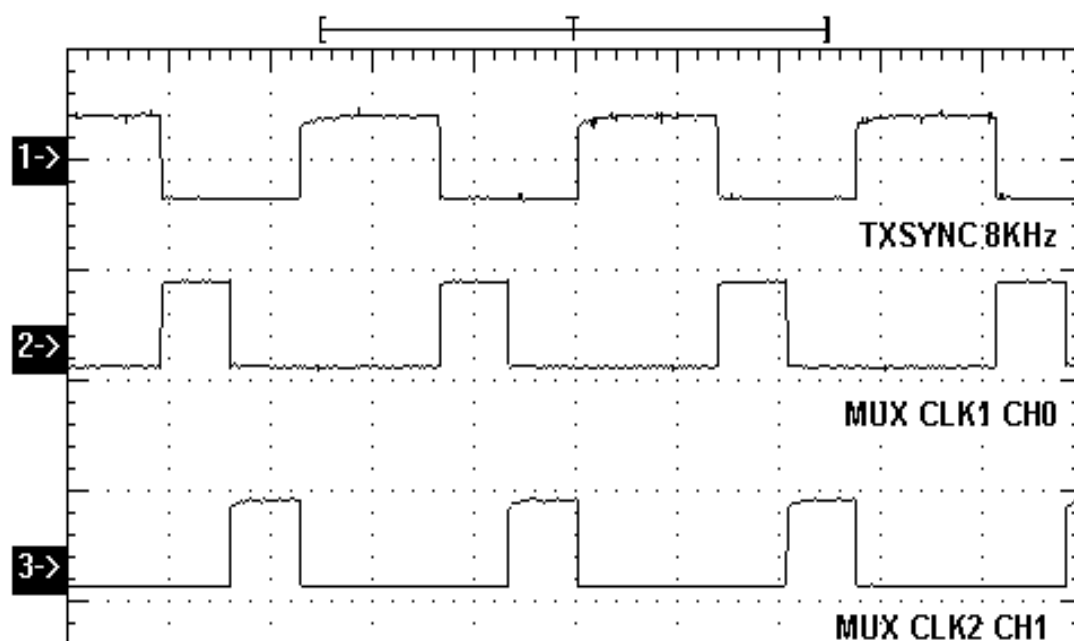

FIG.1.3 WAVEFORMS FOR TX TIMING
1. Refer to the block diagram (Fig. 1.3) and carry out the following connections.